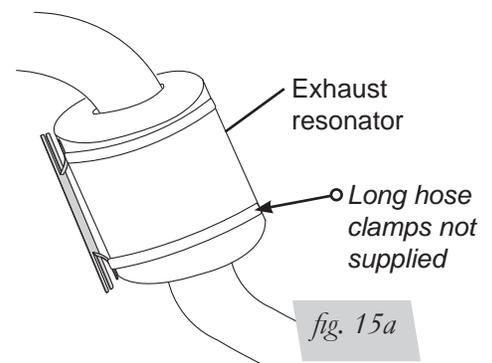

fig. 15a
*If your model comes with an exhaust resonator near the installation location, you will need two 5.5" hose clamps to install the heat shield (fig. 15a).*